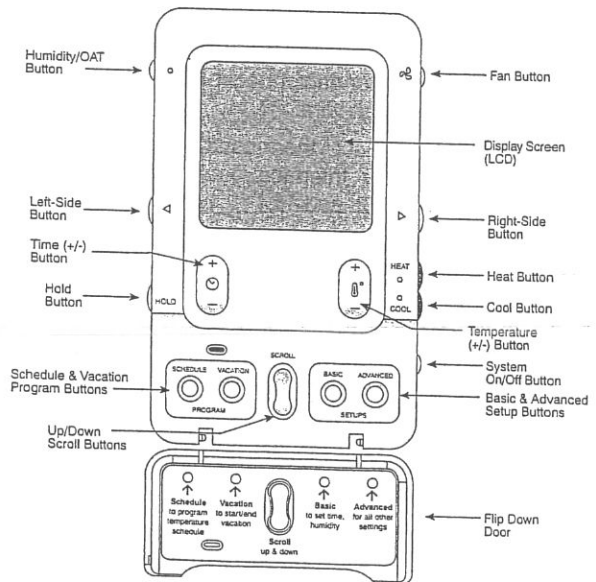

Fig. 14 - Functional Overview
**Note:** Refer to Functional Overview (Fig. 14) to become familiar with key function buttons such as "System On/Off," "Fan," "Left-Side" and "Right-Side" buttons, etc. These function buttons will be used frequently during setup.